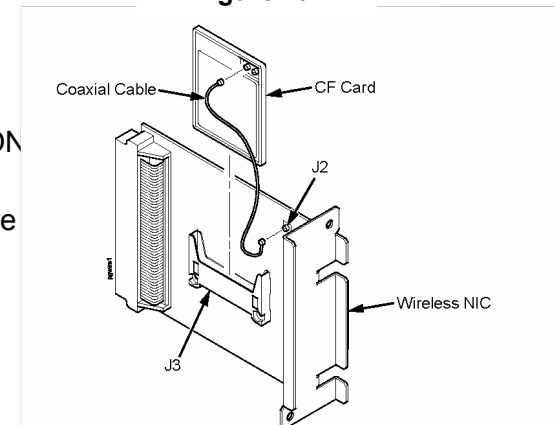

Figure 1b.
3. Connect the CF Card's coaxial cable to J2 on the WLAN Card. **(Fig 1b)**